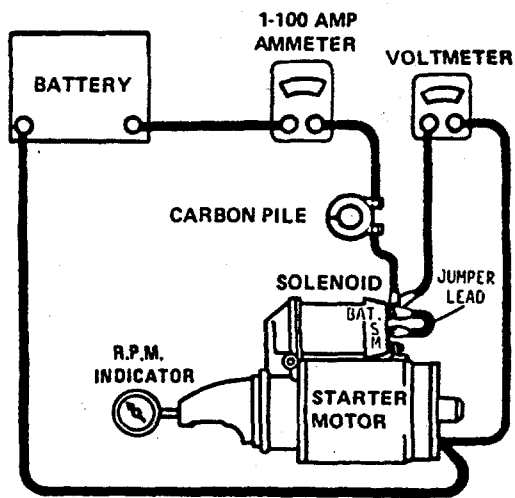

Figure 13-5. No Load Test Circuit (Code A)
- (1) Connect the starter assembly as shown in figure 13-5.
- (2) Close the switch and vary the carbon pile to obtain 20 volts on the voltmeter.
- (3) Starter motor speed at a minimum current draw of 95 amps shall be 5500 rpm. Motor speed at the maximum current draw of 120 amps shall be 7500 rpm.